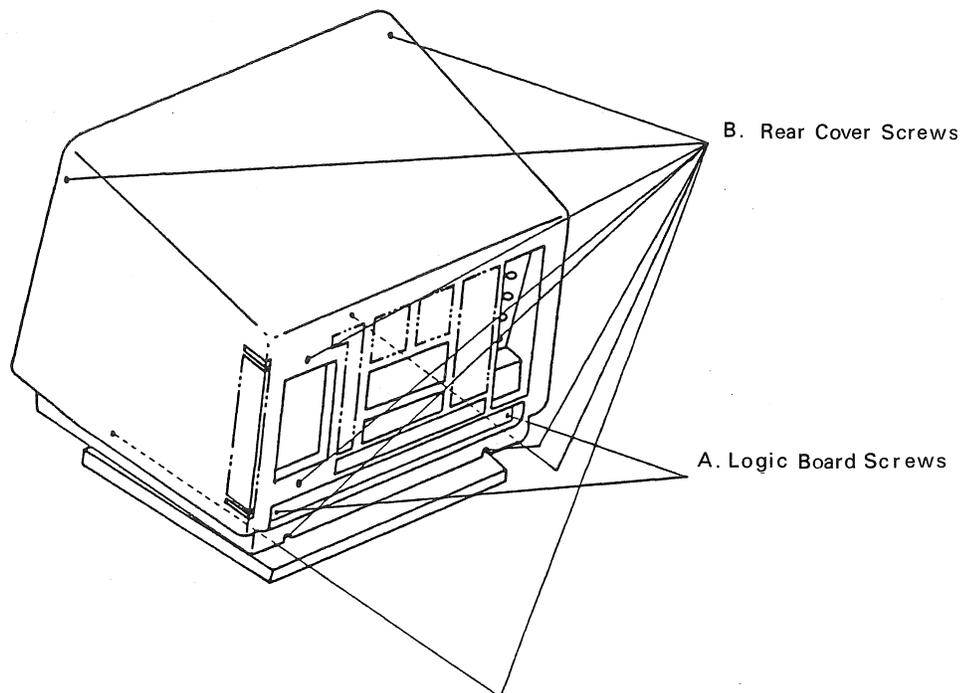

Fig. 2-5-1
- (1) The logic board can be dismantled according to the following procedures:
- Remove two screws marked with A. (See Fig. 2-5-1.)
- (2) The rear cover can be separated from the front according to the following procedure:
- Remove 8 screws marked with B. (See Fig. 2-5-1.)